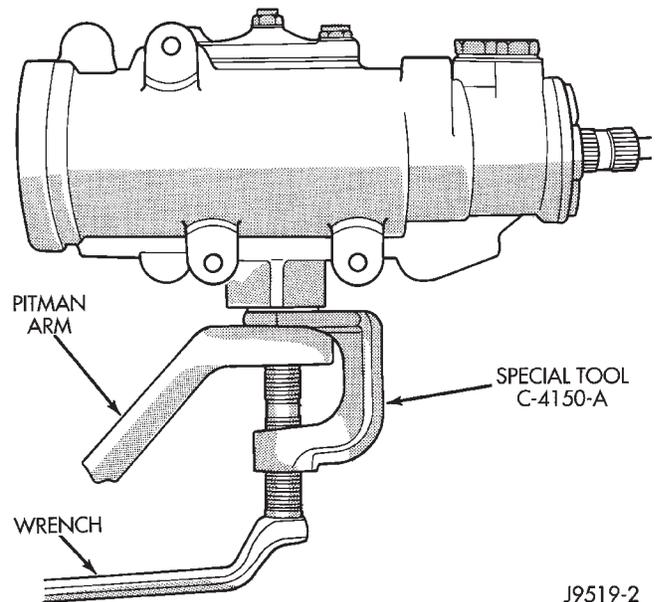

Fig. 3 Pitman Arm Removal
- (4) Remove pitman arm from gear with Puller C-4150A (Fig. 3).